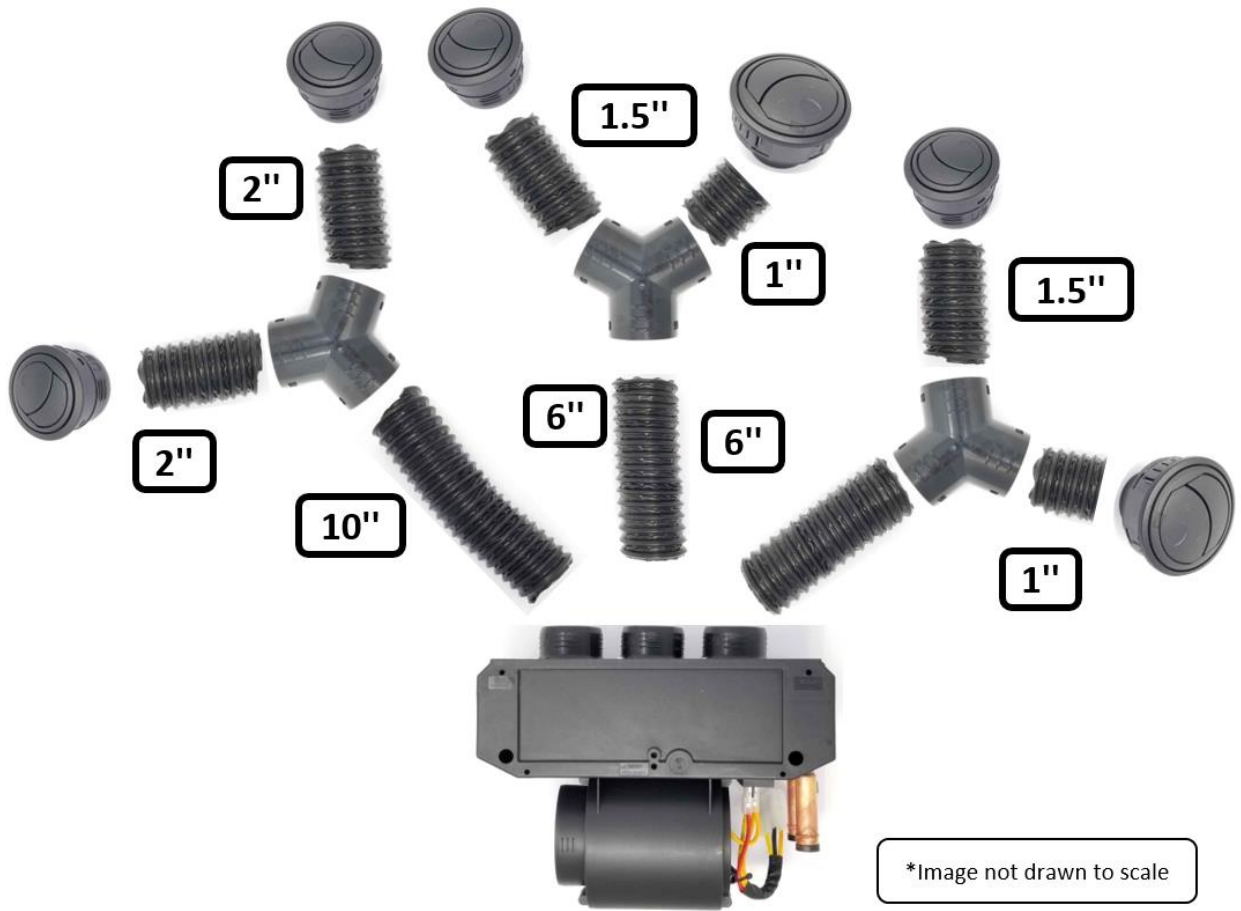

Figure 10
- c. Refer to the 2" Duct Hose layout shown in Figure 10. The measurements are referring to compressed hose dimensions. Lay a tape measure on a tape and compress the hose, mark the lengths needed, and use a pliers to cut the metal banding to create each of the hose lengths.